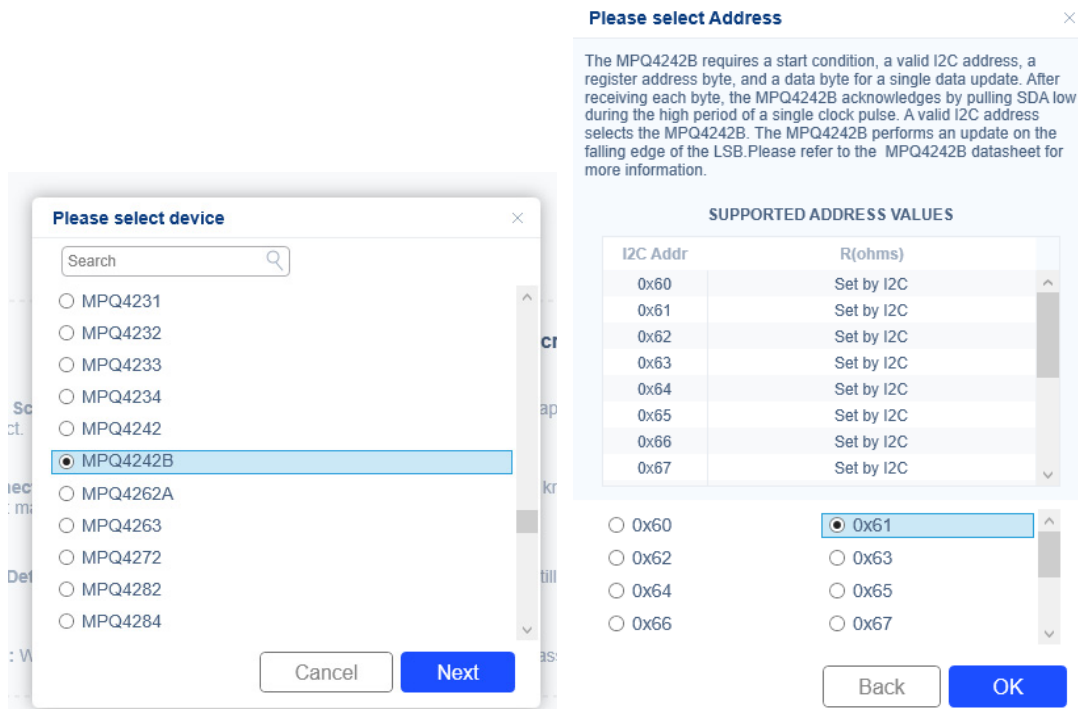

Figure 3: Find the I²C Device Address in Virtual Bench Pro 4.0
4. Click “auto-scan” or connect manually to select the MPQ4242B and find the I²C device address (see Figure 3).